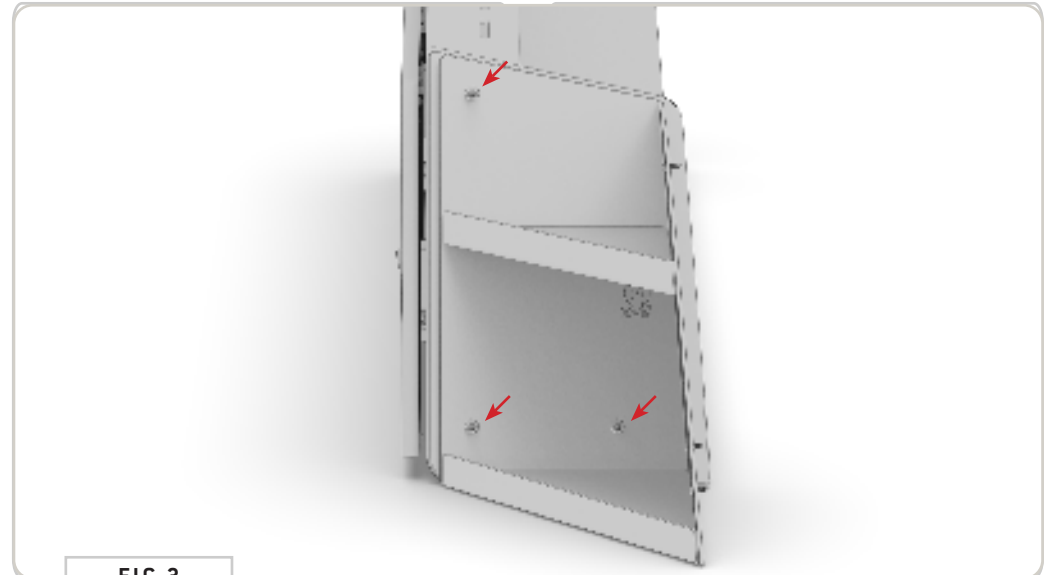

FIG 3
**1.2 Mark Drill Holes:** Dry-fit the **Angled Shelf** to the side of your **Cabinet**, ensuring that the contours along the back edge are aligned, and mark the holes for drilling (**FIG 3**).